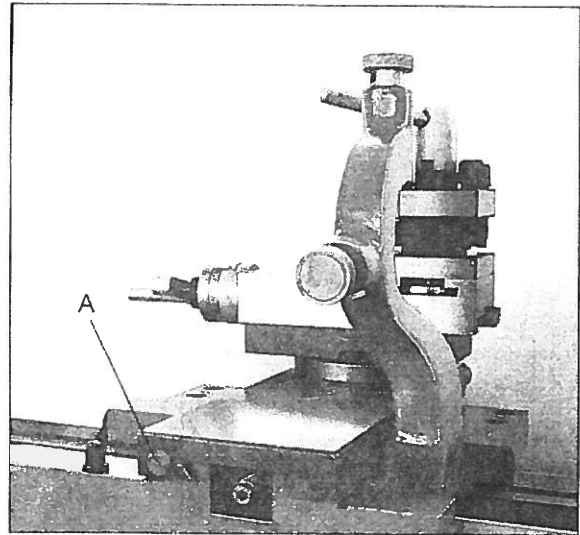

Fig. 18
1. Loosen the rear gib screw (A, Fig. 18) approximately one turn.